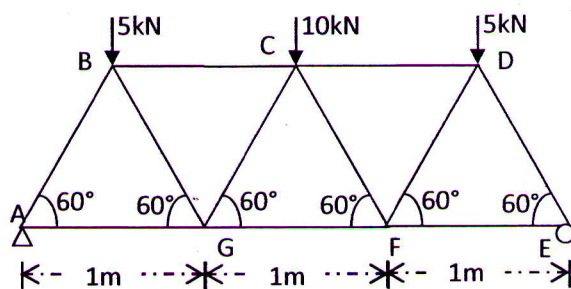

Fig.1
- b) Analyse the truss shown in Fig.1 and tabulate the member forces. 10